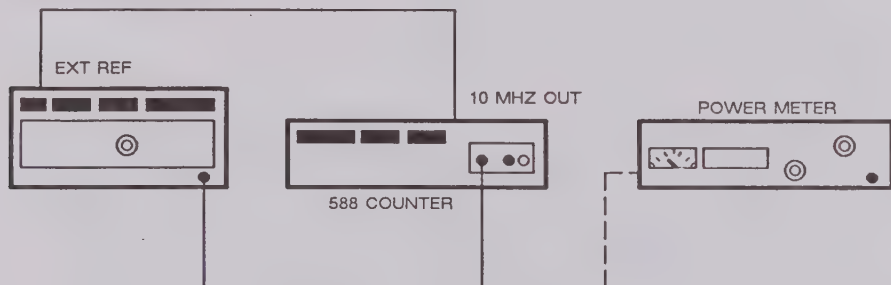

Figure 4-9. Band 1 Maximum Power Level Test Setup
1. Connect equipment as shown in Figure 4-9.